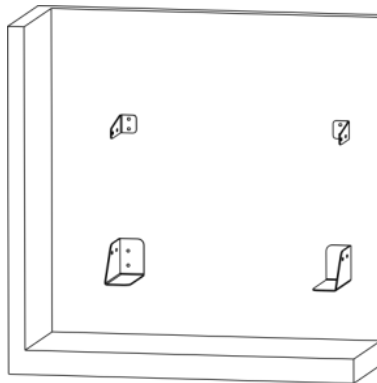

Figure 3-7
5. Stack the required number of battery and bracket combinations as described above, and fix the screws, twisting force keeps  $9.8\text{N} \cdot \text{m}$ . Shown as Figure 3-7.